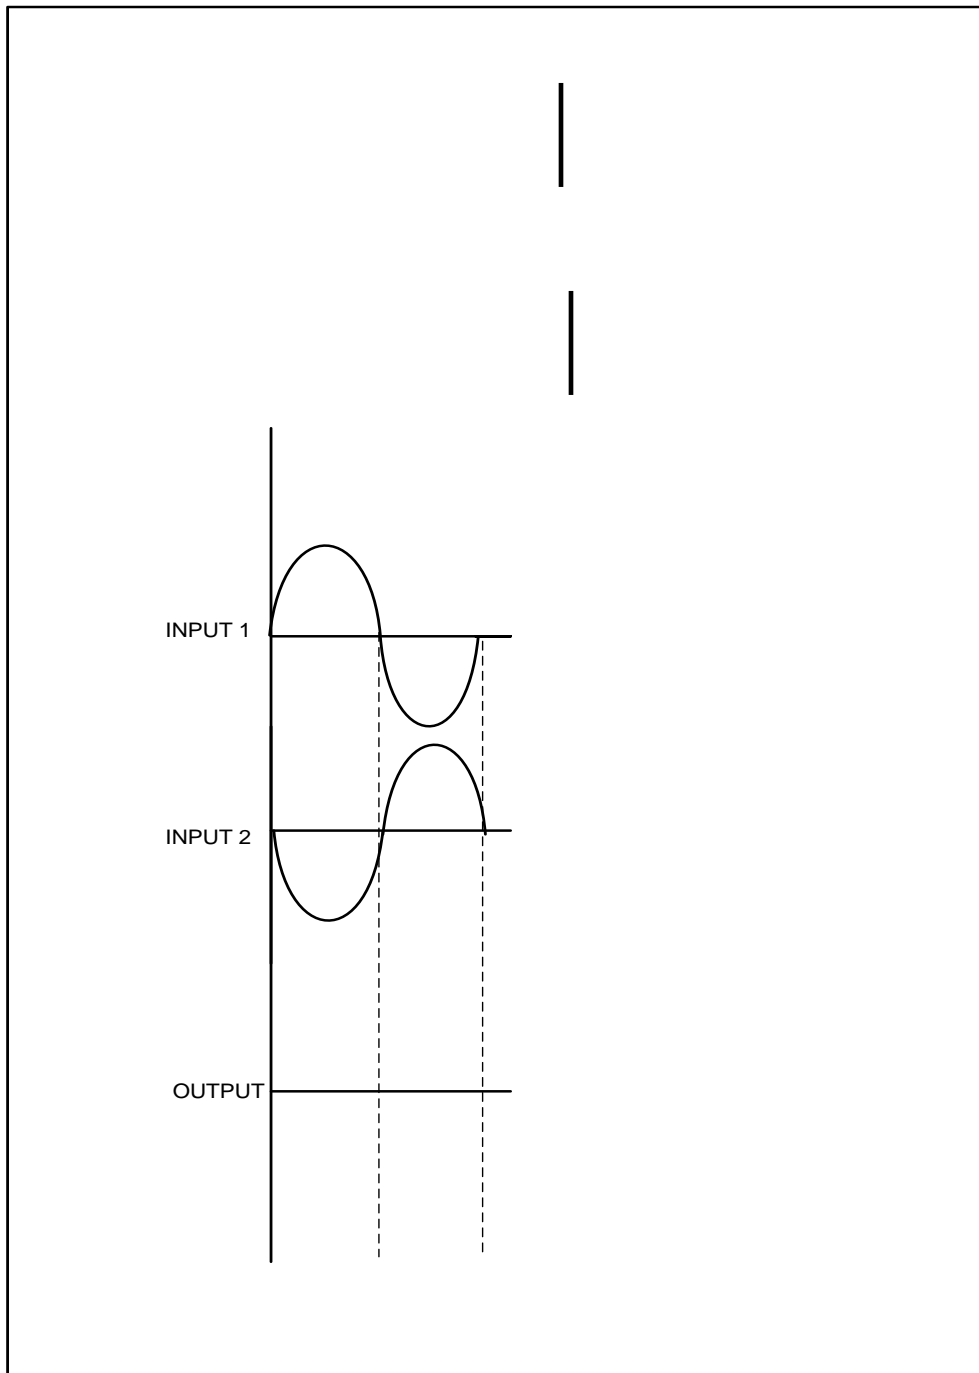

FIGURE 7.1: OP AMP
- 7.6 Refer to FIGURE 7.1 below and draw the output of an ideal op amp in relation to the input waveforms shown. (3)